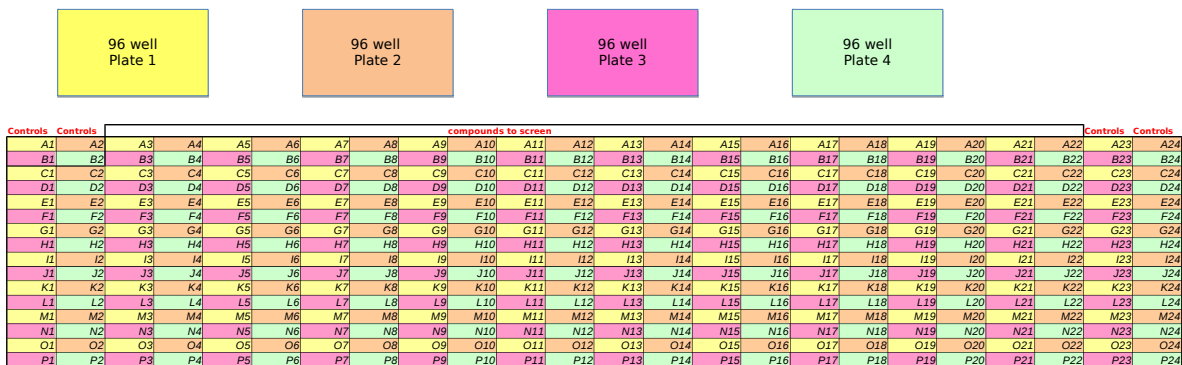

Figure 1: 384-well plate consisting of four 96-well plates.
- 384-well plate composed of four 96-well plates. This format represents an 16×24 matrix. The first and last two columns represent control wells and columns three to twenty two represent compound wells. From this 384-well plate, four 96-well plates can be constructed as shown in Fig. 1.
As mentioned in the previous subsection, it is assumed that the control wells are located either in the first and last plate columns (96-well plate), or in the first and last two plate columns (348-well plate) as shown in Fig. 1. The R package `highSCREEN` assumes that the plate contains positive and negative control wells. The package can also handle additional control types as specified by the user. The requirement is that in addition to the 384-well plate data the user also provides a control map. The map specifies the control type and its position in the control columns, and is used to identify the controls in the plate layout. There are two types of control maps, 96-well and 384-well plate control maps. The first column of the 384-well plate control map specifies the controls and their position in the first column of the 384-well plate. Similarly, the second, third and fourth control map columns correspond to the second, twenty third and twenty fourth 384-well plate columns, respectively. Similarly, the first and second columns of the 96-well plate control map specify the controls and their position in the first and second columns of the 96-well plate, respectively. In the example below, a 384-well plate contains five different types of controls, positive controls ("Control P"), negative controls ("Control N"), controls with low concentration ("Control low"), controls with medium concentration ("Control med"), and controls with high concentration ("Control high").